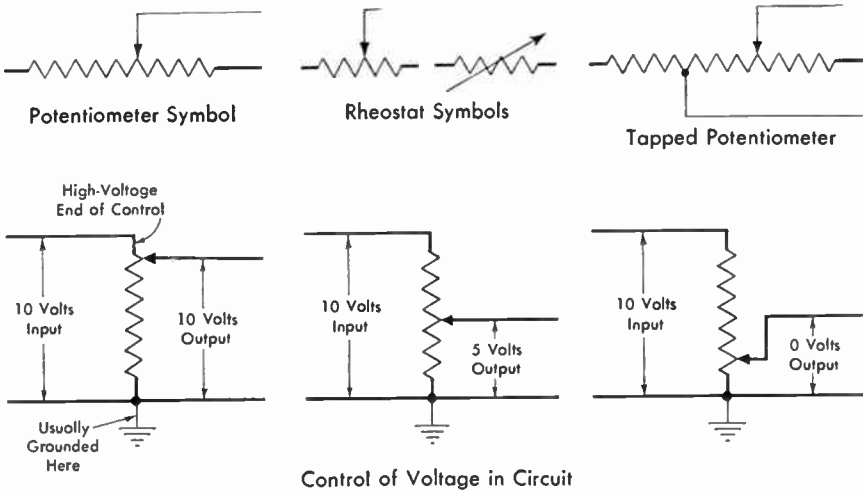

Fig. 3. Potentiometer and rheostat symbols, and manner in which a potentiometer controls the amount of voltage passed on to the next stage or circuit
**Potentiometer and Rheostat Symbols.** The standard symbol used on circuit diagrams to represent a potentiometer is shown in Fig. 3. The arrow represents the movable contact.
**How a Potentiometer Controls Voltage.** In a potentiometer, moving the contact arm varies the fraction of voltage passed on to the next circuit, as also indicated in Fig. 3. When the contact arm is at the high-voltage end of the resistance element, all of the input voltage is passed on to the next stage. As the contact arm is moved toward the low-voltage or grounded end of the resistance element, the output voltage is lowered.